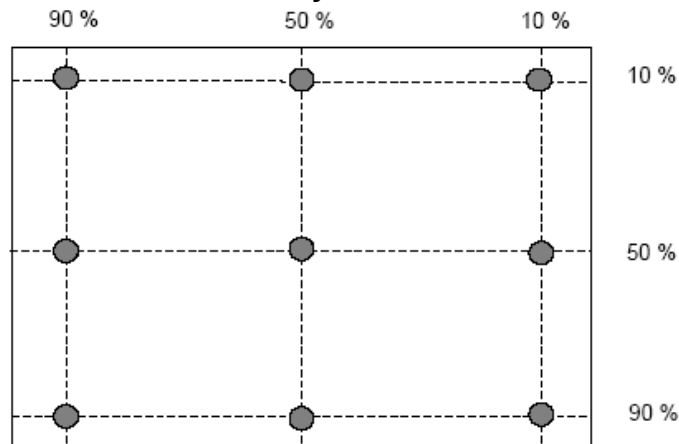

Figure 1: Measurement set up
- Contrast measurements shall be made at viewing angle of $\theta = 0^\circ$ and at the center of the LCD surface. Luminance shall be measured with all pixels in the view field set first to white, then to the dark (black) state. (See FIGURE 1) Luminance Contrast Ratio (CR) is defined mathematically.